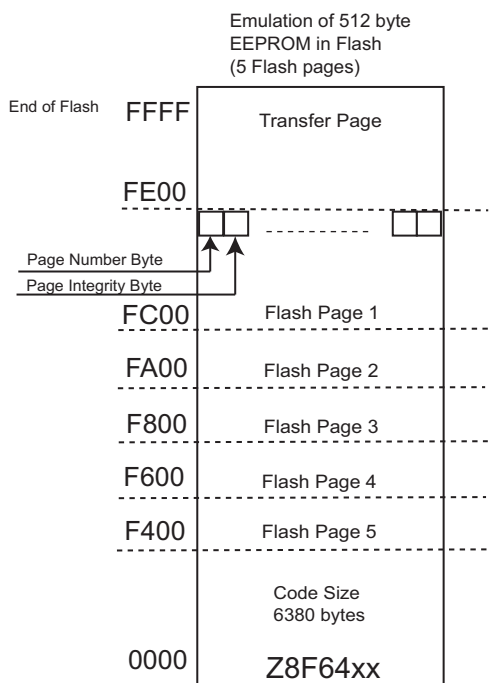

Figure 1. Flash Memory Map of Z8F64xx Devices to Store Variables in EEPROM
- The virtual EEPROM is accessible as a linearly-addressable range. For example, a 1 KB size is addressable from 0x000 to 0x3FF (This is not the actual flash address) (see Figure 1 on page 3).